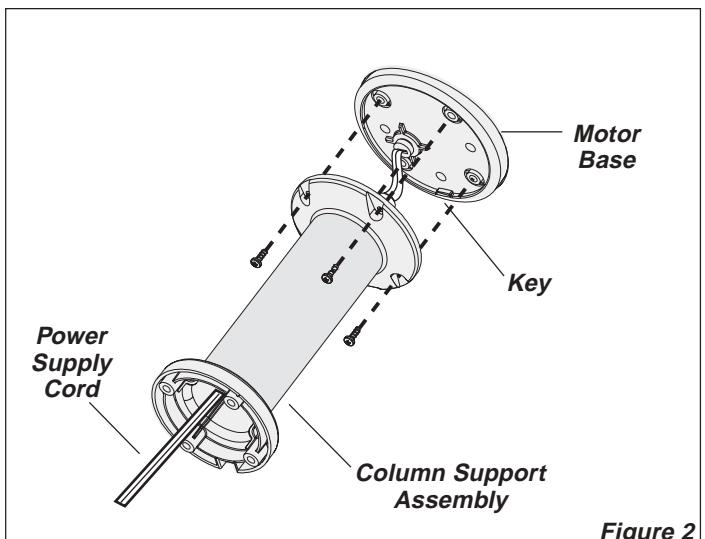

Figure 2
CONTROL REMOTO (Figure 2)
- Attach the **Column Support Assembly** to the **Motor Base** with (4) M5 X 13mm Screws. Make certain to align the **Key** on the **Motor Base** with the **Locating Notch** on the **Column Support Assembly**. (Figure 2)
The Heater may be operated by the manual controls located on the Heater (as shown in **Figure 1**) or by your remote control (shown in **Figure 2**).
REMOTE CONTROL (Figure 2)